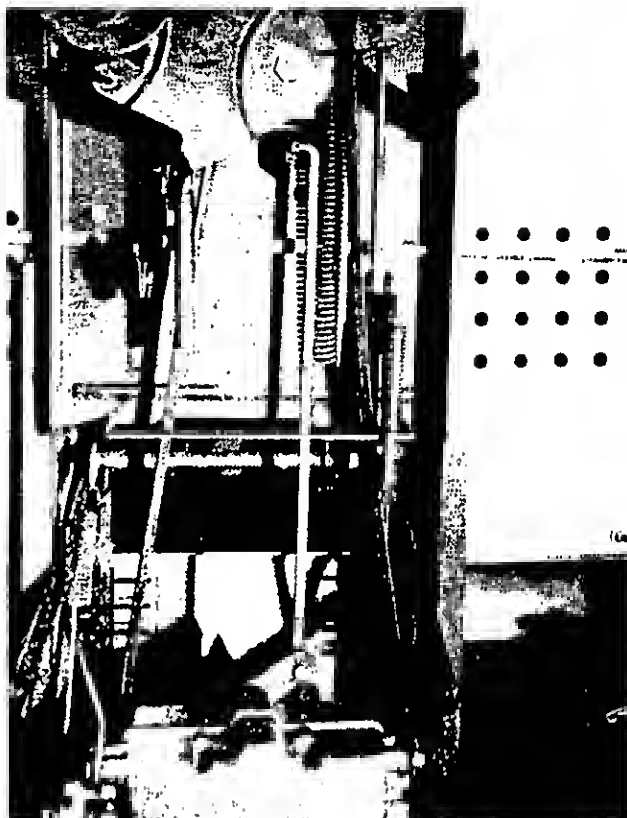

FIGURE 27.
9. Remove the cotter pin from the transaxle shifting rod and pull it out of the bracket. See figure 27.